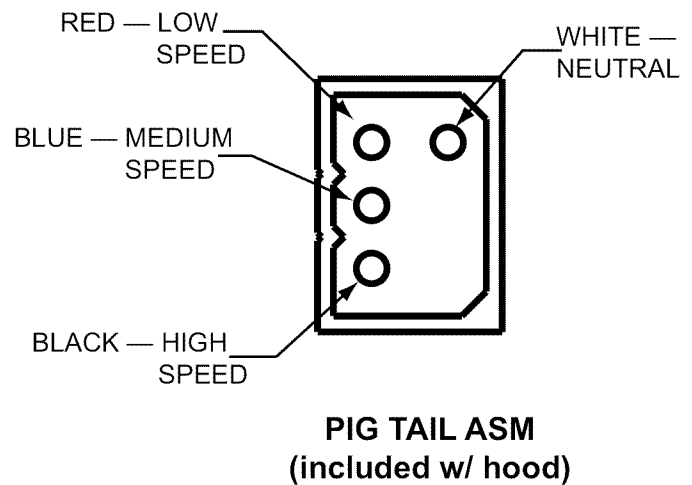

Figure 20: Wiring the Hood with a Remote Blower
4. Connect the power supply wires to the hood wires in the following order: black to black, white to white, and green wire to green ground screw on chassis. Use spring type wire nuts supplied. (Lost or missing wire nuts should only be replaced with: Spring type wire nuts, rated for a minimum of (2) # 18ga wires and maximum of (4) #14ga wires, UL & CSA rated to 600V and 302° F./150° C.)
6. Run five (5) wires (#14 AWG) in 1/2" conduit from the remote blower to the second conduit connector.
7. Connect the remote ventilator to the pigtail wires (Step 6) as per Figure 20. Connect the remote blower green (ground) wire to the ground screw in the junction box.